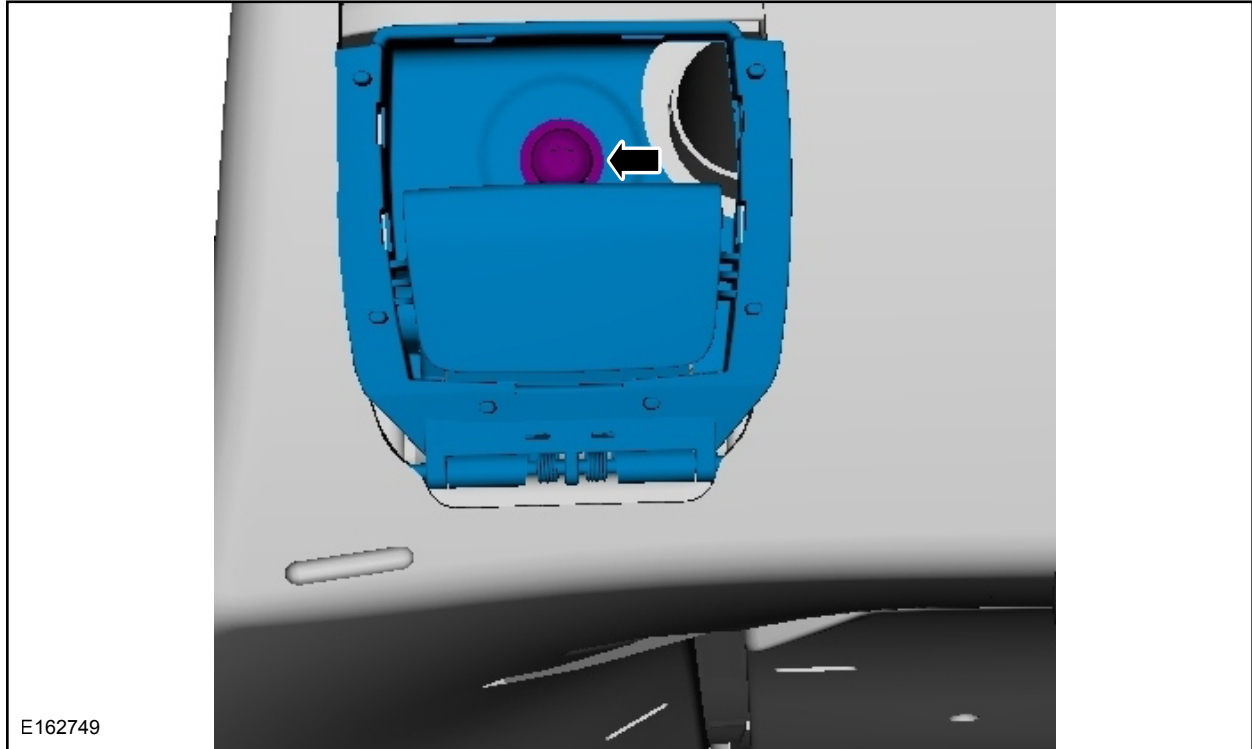

FIGURE 11
13. Remove the screw, detach the lever and remove the latch handle. See Figure 11.